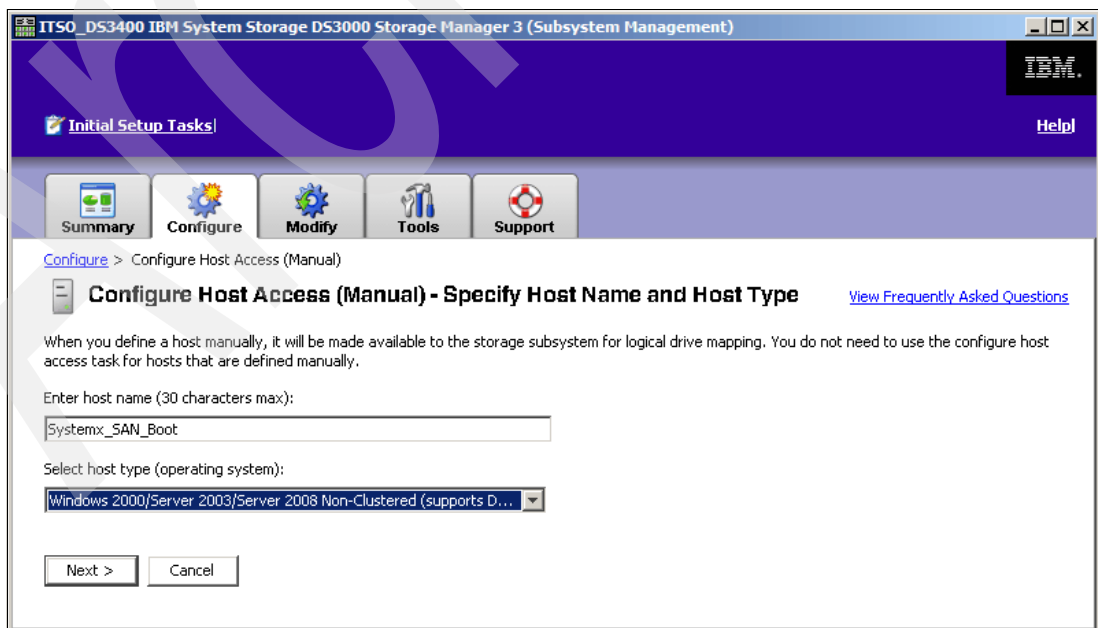

Figure 27-13 Specify Host Name and Host Type
2. Specify the host name and type. In our example, the host server name will be Systemx\_SAN\_Boot and the type will be Windows 2000/Server 2003/Server2008 Non-Clustered (supports DMP) host type, because we want to have auto volume transfer (AVT) enabled for boot path protection (see Figure 27-13).